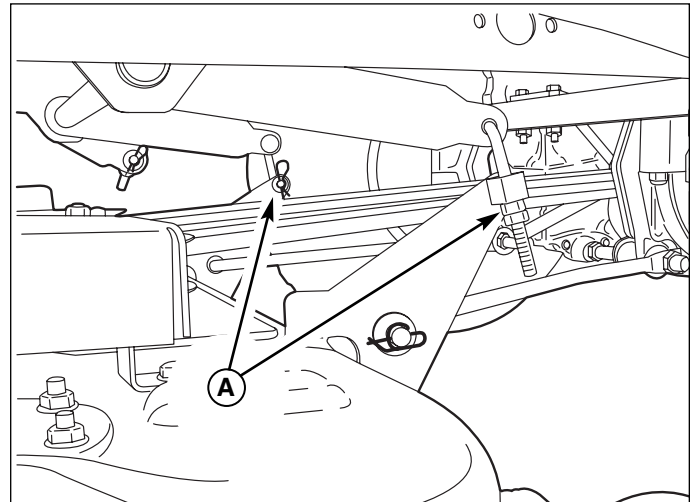

Figure 17. Mower Leveling - Side-to-Side
5. Use the rear leveling nuts (A, Figure 17) to adjust the side-to-side leveling of the deck. Repeat step 4 if necessary.